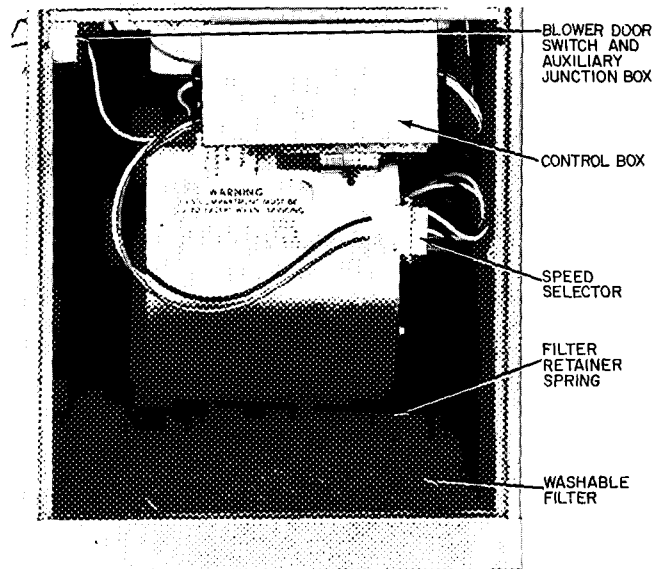

Fig. 7 — Filter Installed for Bottom Inlet
The filter is factory-installed in the bottom of the furnace. This is for bottom inlet application. See Fig. 7.
To change motor speed taps, remove the motor tap lead (see Fig. 7 and Table 5) and relocate it on the desired terminal on the plug-in terminal block/speed selector located on the blower.
3. Remove electrical leads from numbered side of Molex speed selector. See Fig. 7 and Table 5. Note location of wires for reassembly.